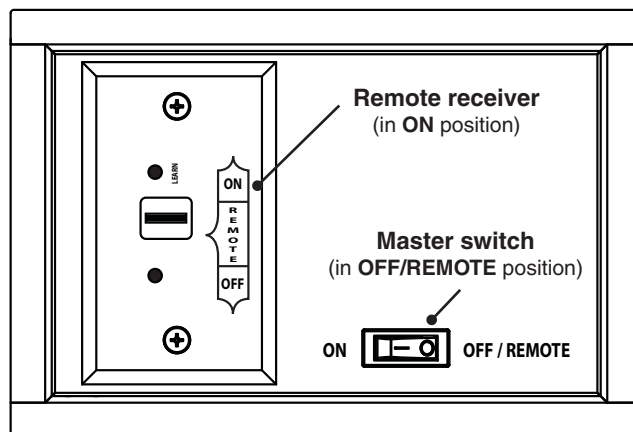

Fig. 31-1 Control panel detail
1. Ensure the master switch is in the **OFF/REMOTE** position (see Fig. 31-1).
2. Locate the 3-position switch on the remote receiver (see Fig. 31-1), and slide the switch to the **ON** position.
The master switch should remain in the **OFF/REMOTE** position to allow for remote system operation (see Fig. 31-1).